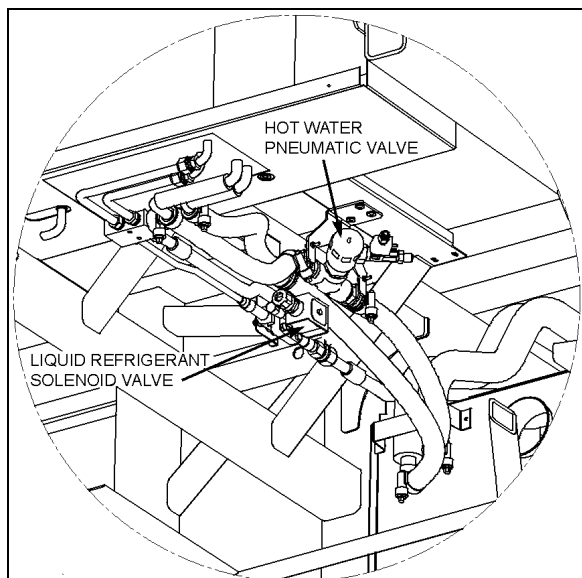

FIGURE 49: CEILING OF THE SPARE WHEEL COMPARTMENT
2. Locate the normally open water pneumatic valve on the ceiling of the spare wheel compartment (Fig. 49), move the pilot-solenoid valve red tab to close the valve.